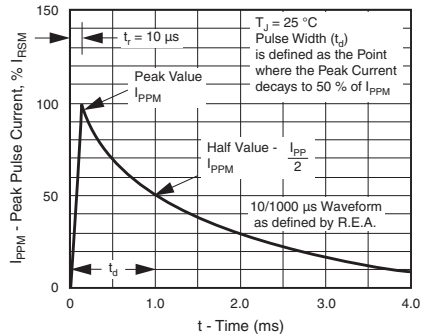
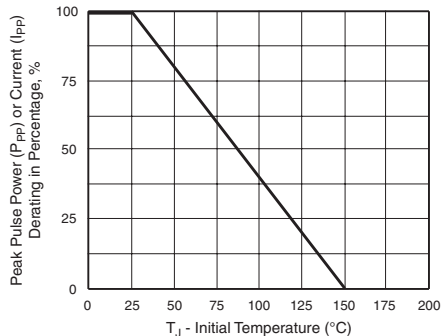

Figure 3. Pulse Waveform
Figure 2. Pulse Power or Current vs. Initial Junction Temperature
- (1) Pulse test: tp ≤ 50 ms
- (2) Surge current waveform per Fig. 3 and derated per Fig. 2
- (3) For bi-directional types having VWM of 10 V and less, the ID limit is doubled
- (4) All terms and symbols are consistent with ANSI/IEEE C62.35
- (5) For the bi-directional SMCG5.0CA, the maximum VBR is 7.25 V
- (6) VF = 3.5 V at IF = 100 A (uni-directional only)